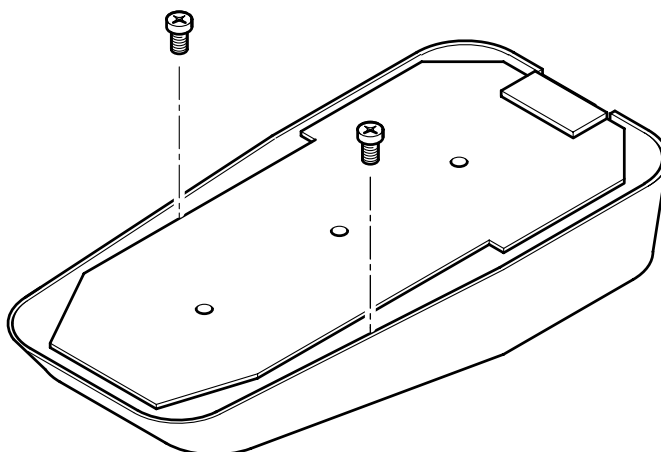

Figure 20: Screw removal
3. (Figure 20) Remove the PCB assembly fixing screws.